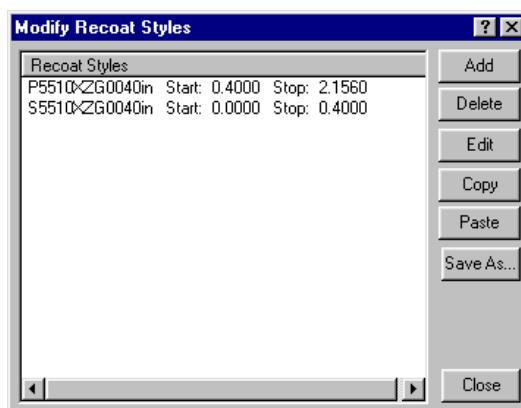

Figure 85. *Modify Recoat Styles Dialog*
2. Click the "Modify Recoat Styles" ... icon from the "Build Toolbar". This brings up the "Modify Recoat Styles" dialog as shown in Figure 85.